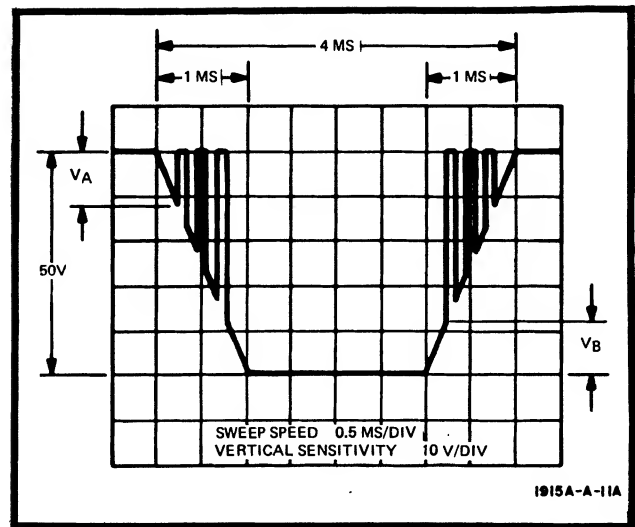

Figure 5-13. Negative Overload Adjustment Pulse
j. Set Model 1915A WIDTH vernier, LEADING EDGE and TRAILING EDGE controls to obtain the display shown in Figure 5-13.
n. Adjust A3R88 (neg power detector balance adj) and A3R85 (—PD) until V_A and V_B correspond to the values obtained in step m. (see Figure 5-13.)